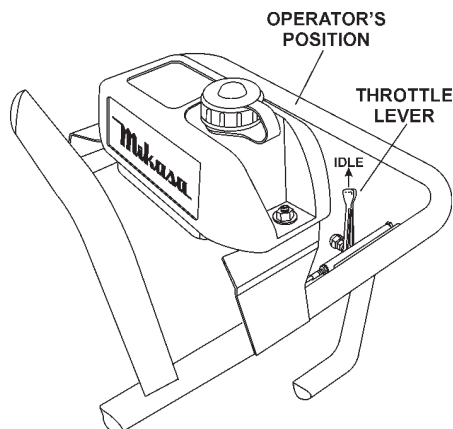

Figure 9. Throttle Lever (Idle)
3. Move the throttle lever to the "IDLE" position (Figure 9).